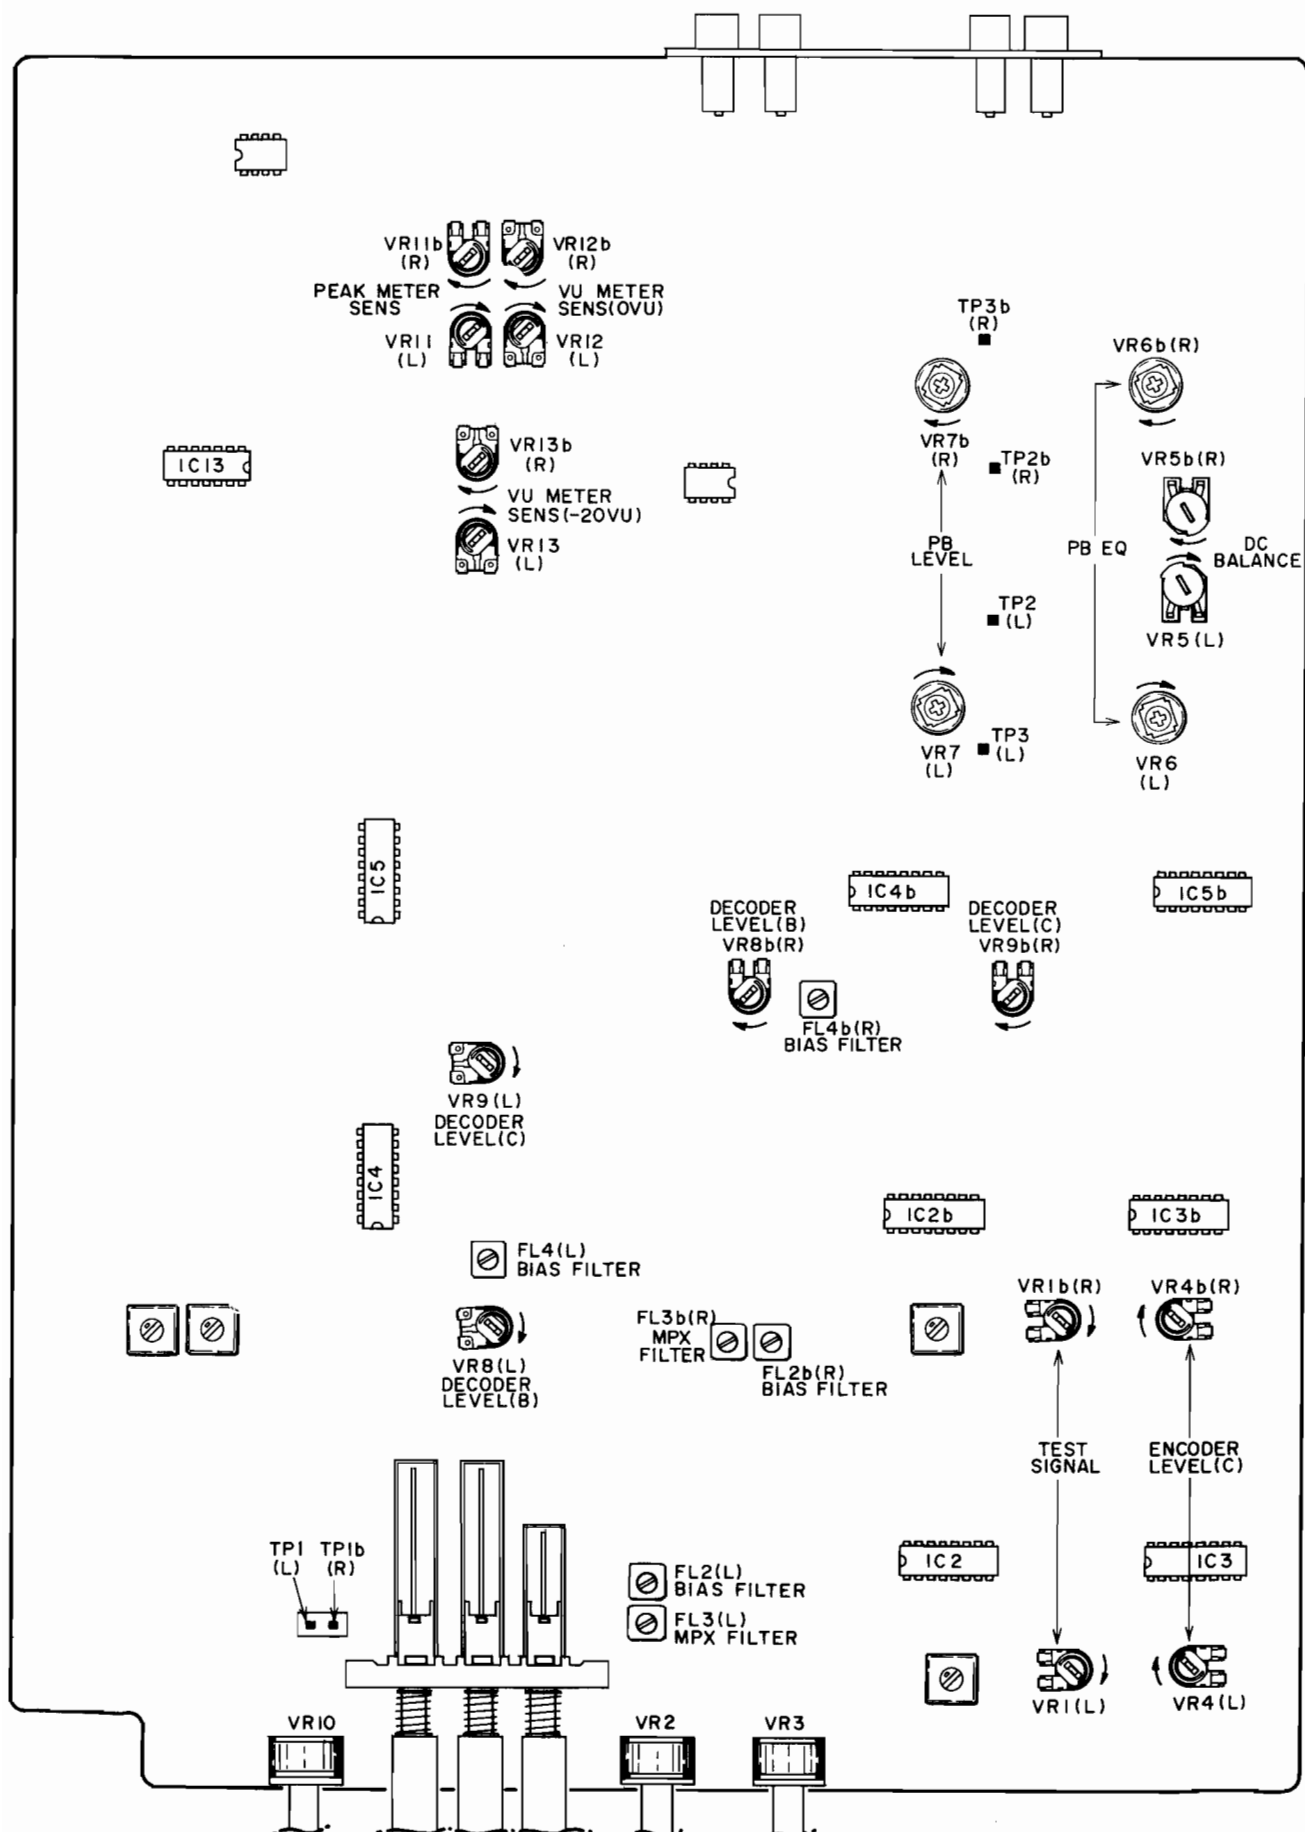

Fig. 11 Pre Amp P.C Board
1. PB EQ AMP ADJUSTMENT (Fig. 11)
2. METER ADJUSTMENT (Fig. 11)
3. DOLBY ENCODER ADJUSTMENT (Fig. 11)
4. DOLBY DECODER ADJUSTMENT (Fig. 11)
- With the monitor SW to SOURCE, adjust VR1 (Fig. 11 Pre Amp PCB) so that the LINE OUT level will be -25.5 ± 0.2 dBm.